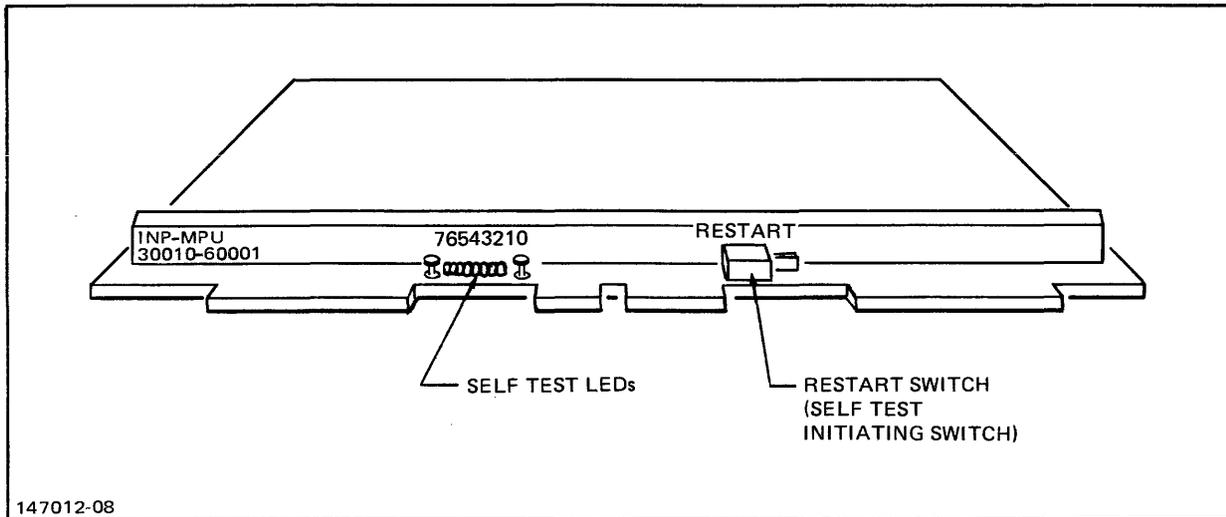

Figure 2-6. Self-test Switch and LED Indicators
- c. Press the red, spring-loaded RESTART switch on the edge of the INP-MPU board (figure 2-6) to manually initiate the self test.
- d. Watch the self-test light-emitting-diode (LED) indicators (figure 2-6) as the self-test program goes through its cycle. Upon completion of the self test (approximately 2 seconds in duration), the LEDs will stop winking and will display a steady pattern. If the two LEDs at each end (0 and 7) are lighted while all the others are off, the INP is working properly. If any other pattern of lighted LEDs is being displayed, the INP is malfunctioning.